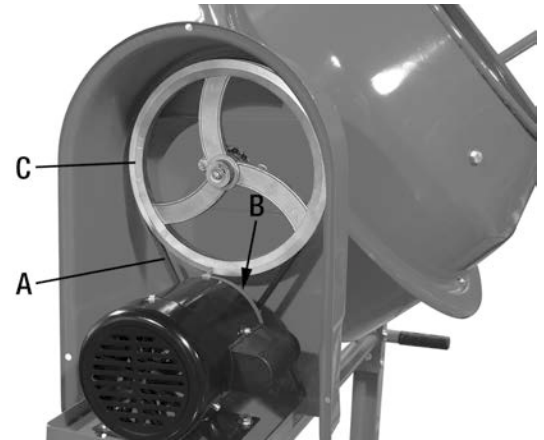

FIGURE 11
1. Position the V-Belt (A) Fig.11 around the motor pulley (B) and then over the drum pulley (C). It may be necessary to lift the motor plate in order to place V-belt around the pulleys. Then push the motor inward until it is directly under the drum pulley. Tighten the motor hardware to secure the motor.